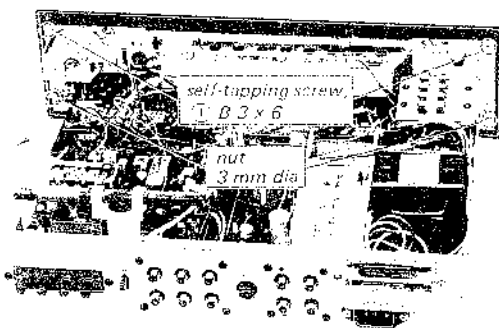

Fig. 2-3. Front panel removal
3. Remove the two self-tapping screws and the two nuts shown in Fig. 2-3.